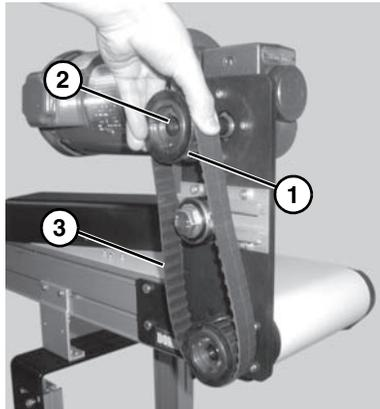

Figure 17
*If drive pulley (**Figure 17, item 1**) is replaced, wrap timing belt around drive pulley and complete step 3.*
- Remove drive pulley (**Figure 17, item 1**), taper hub assembly (**Figure 17, item 2**), and timing belt (**Figure 17, item 3**).
*Drive pulley (**Figure 17, item 1**) is removed. Wrap timing belt around drive pulley and complete step 13.*